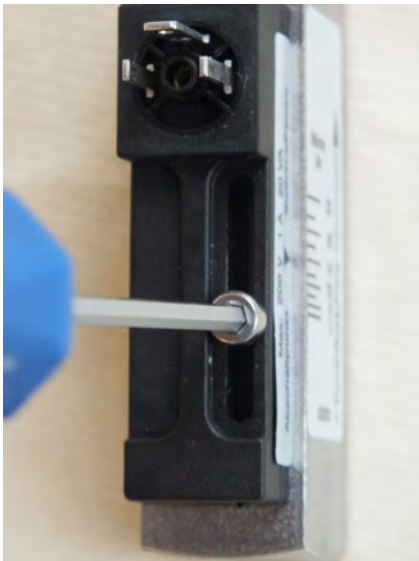

Fig. 32: Loosen set screw
1. ➔ Loosen the set screw of the switch contact (Fig. 32) using a Hex screwdriver.
3. ➔ Re-tighten the set screw of the switch contact (Fig. 32) using a Hex screwdriver. When doing so, observe the correct tightening torque of the screws.